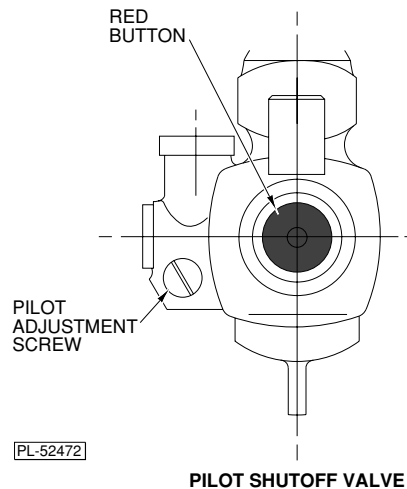

Fig. 3
5. Depress and hold in on the red button (Fig. 3) on the automatic shutoff valve while lighting the pilot burner.
Turn control knobs to OFF. Turn the manual shutoff valve to OFF. Shut off the pilot flame by removing the pilot adjustment cap and turning the adjusting screw on the pilot shutoff valve (Fig. 3).